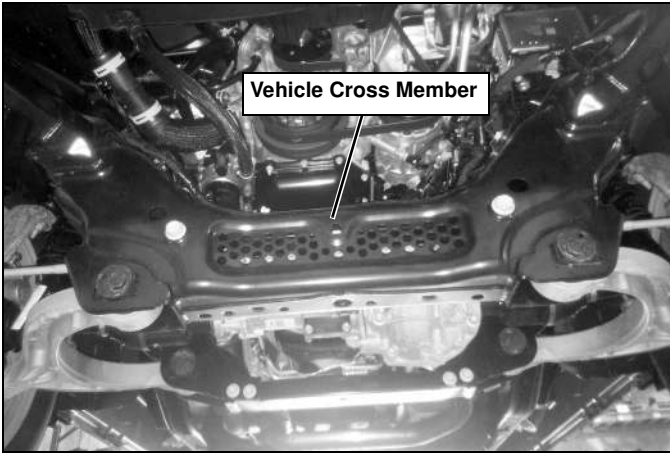
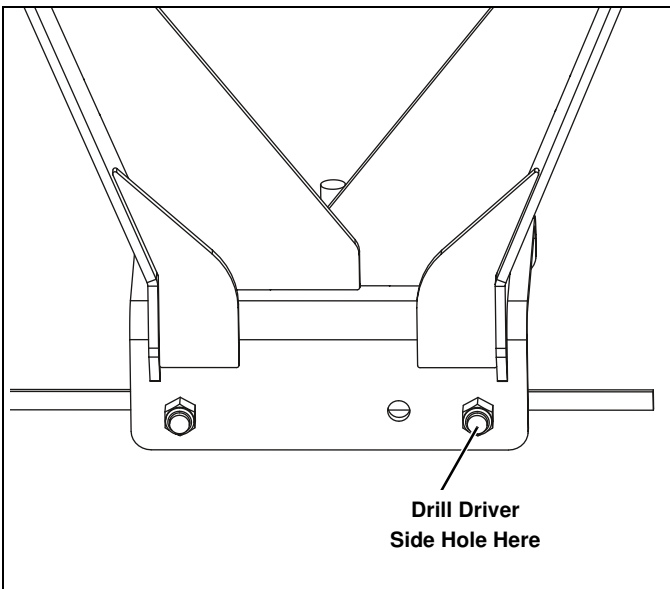

Figure 7
Figure 8
8. Finish securing the Cross Member Weldment (#3) with (2) 1/2"-13 x 1-1/2" x 20" Handle Bolt Weldments (#12) and (2) 1/2"-13 Locknuts (#14). (See Figure 7 and Figure 8.) The passenger side hole already exists, the driver side hole will need to be center punched and drilled to 17/32". Before drilling, make sure the Cross Member Weldment (#3) is held tight against the front and bottom of the cross member. Do NOT drill too far, only enough to pass through the steel.